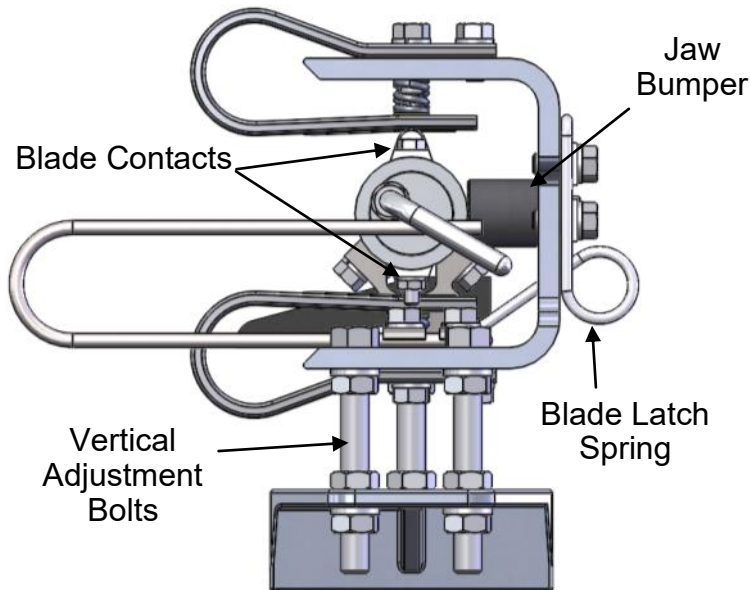

Figure 2 — Blade in jaw latched position, end view
- 9. Set the phase above to where the blade is in the jaw but in the unlatched position as shown in Figure 2.